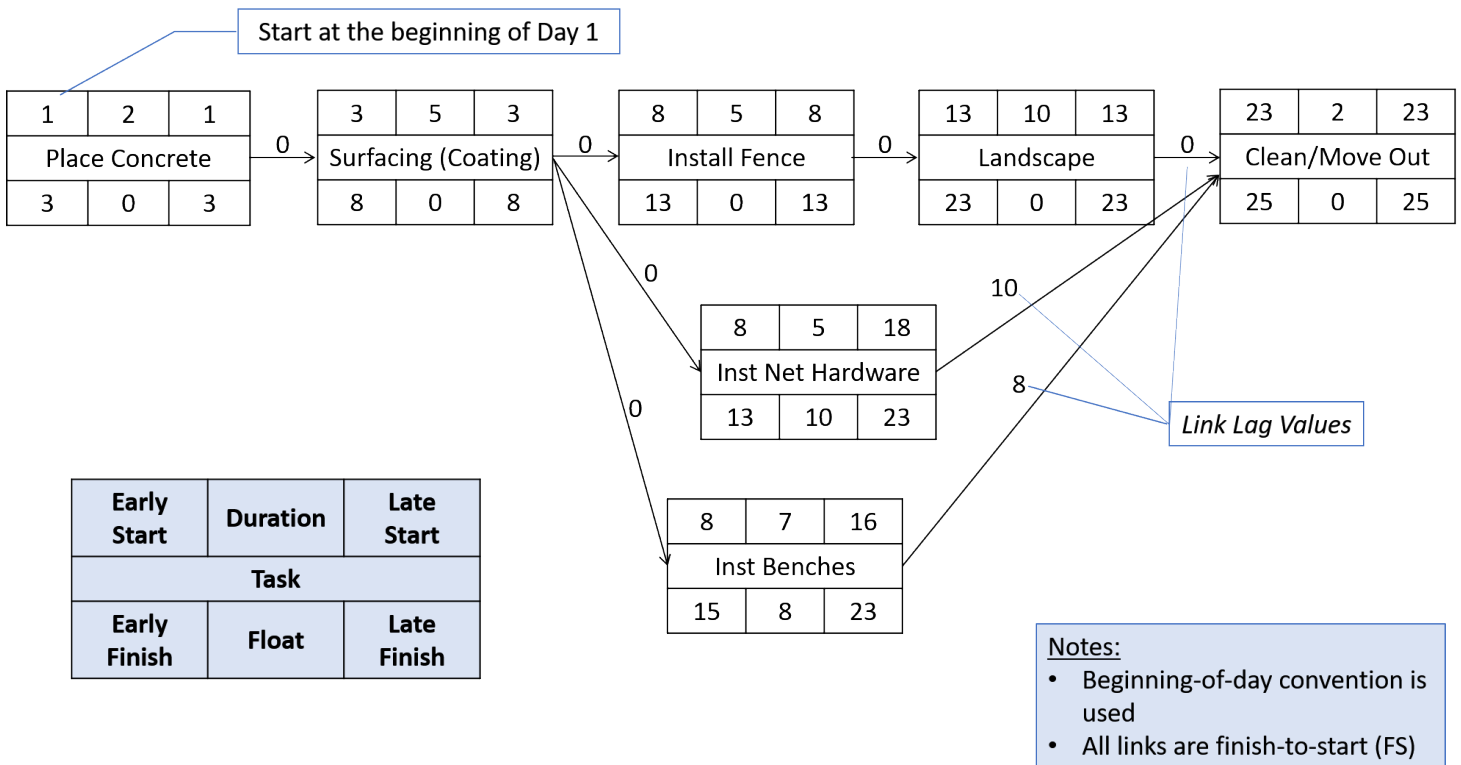

Figure 1 – Calculations on a Precedence Network
1. **Assign *Early Start (ES)* and *Early Finish (EF)***
- i. In Figure 1 – The first activity begins on Day 1 and has a Duration of 2 days, so its *Early Finish* is the beginning of Day 3, meaning the next activity can start at the beginning of Day 3 – remember when doing this by hand to stick with a single convention (in this case beginning-of-day) when referring to activities
- 1. In Figure 1 – the *Early Start* of the Activity that follows “Inst Net Hardware” is Day 23 (Clean/Move Out) and the *Early Finish* of “Inst Net Hardware” is Day 13, so the *Lag* is 10 ( $Lag_{AB} = ES_B - EF_A$ )
- i. In Figure 1 – The last activity is “Clean/Move Out”, and it has three IPA's: “Landscape”, “Inst Net Hardware”, and “Inst Benches”.
- 1. The *Float* value of “Landscape” is calculated by adding the *Float* value of “Clean/Move Out” (0) to the *Lag* value of the link line connecting the two activities (0) – in this case *Float* for “Landscape” is  $0 + 0 = 0$
- i. In Figure 1 – The *Critical Path* consists of five activities: “Place Concrete”, “Surfacing/Coating”, “Install Fence”, “Landscape”, “Clean/Move Out”